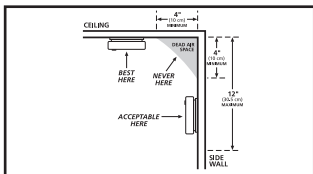

FIGURE 1
- When mounting an alarm on the ceiling, locate it at a minimum of 4" (10 cm) from the side wall (see figure 1).
- When mounting the alarm on the wall, use an inside wall with the top edge of the alarm at a minimum of 4" (10 cm) and a maximum of 12" (30.5 cm) below the ceiling (see figure 1).
Modern mobile homes have been designed and built to be energy efficient. Install smoke alarms as recommended above (refer to RECOMMENDED LOCATIONS and figures 1 and 2).
In older mobile homes that are not well insulated compared to present standards, extreme heat or cold can be transferred from the outside to the inside through poorly insulated walls and roof. This may create a thermal barrier which can prevent the smoke from reaching an alarm mounted on the ceiling. In such units, install the smoke alarm on an inside wall with the top edge of the alarm at a minimum of 4" (10 cm) and a maximum of 12" (30.5 cm) below the ceiling (see figure 1).